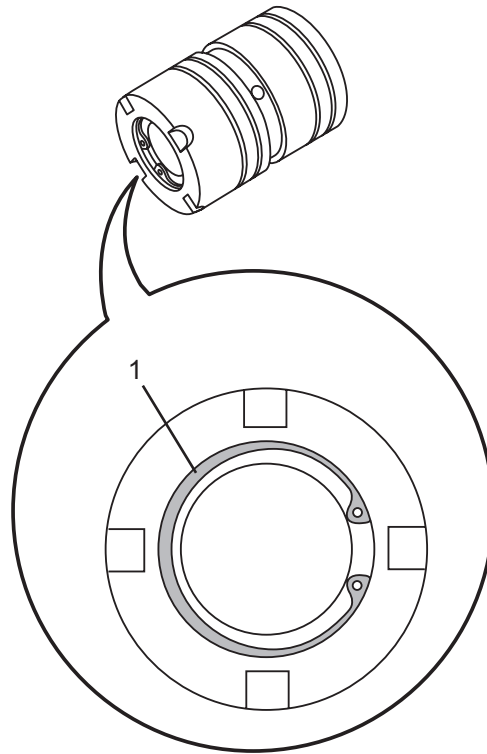

Figure 40
7. Inspect the spool, spring, washer, and housing. Check the spool for damage. Check the spring for breaks. Note the orifice is held in place with a smaller retaining ring (Figure 40, Item 1) on the pump end of the flow control. If removed, the orifice must be correctly installed for proper operation of the flow control.